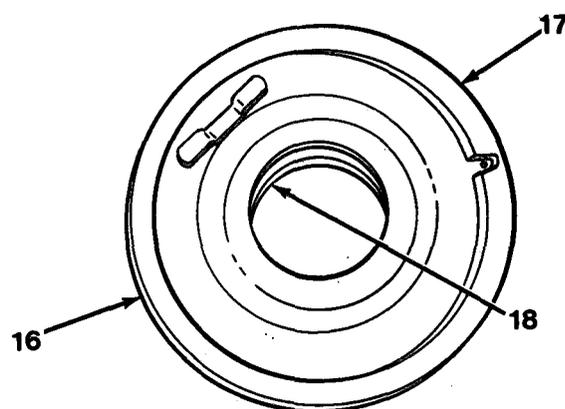

Figure 11-5
11. Remove snap ring retainer (14), four springs (12) and thrust washer (15).
12. Remove clutch piston (16) from clutch shaft assembly (2).
13. Remove outer piston seal (17) and inner O-ring (18) from clutch piston (16, Figure 11-5).